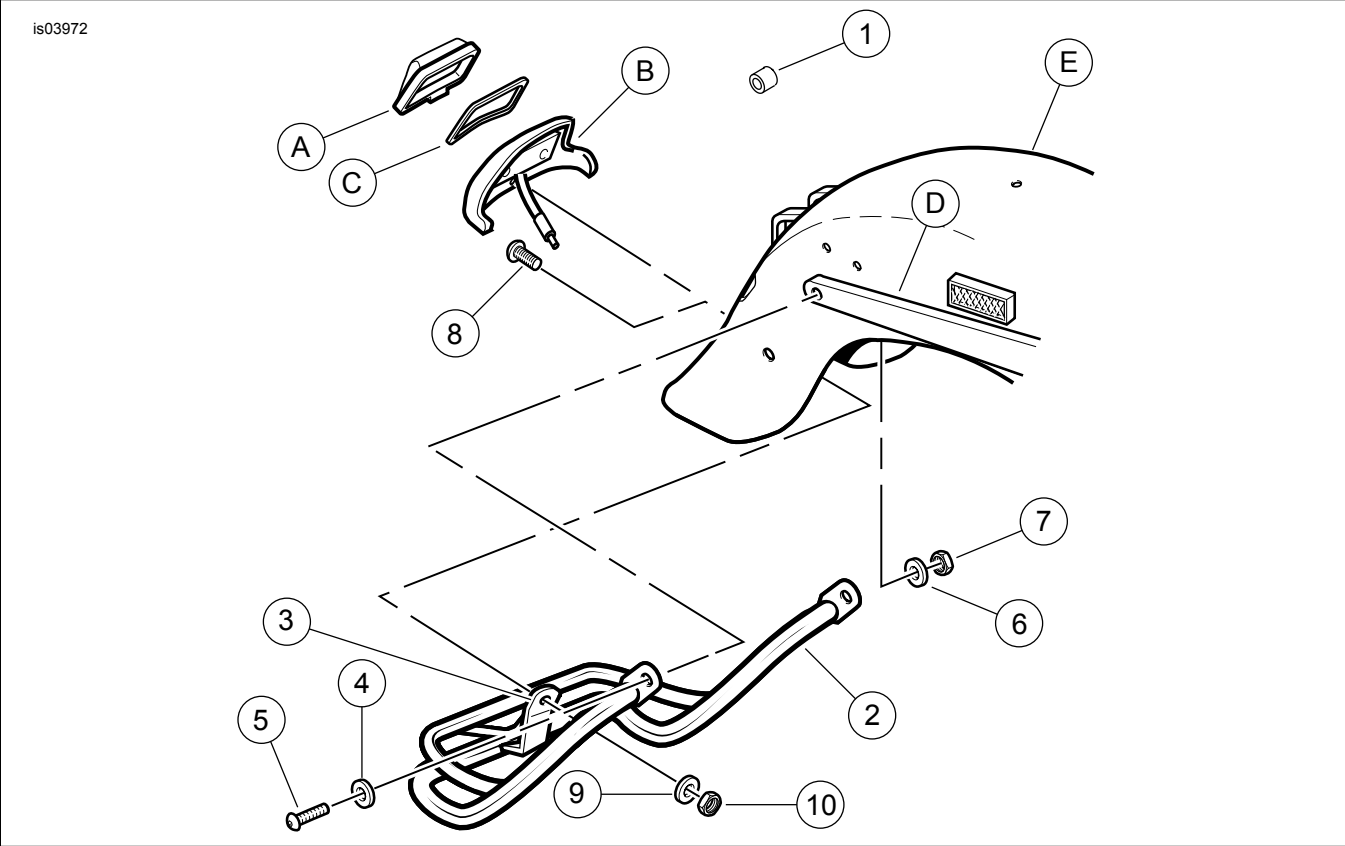

Figure 1. Service Parts: Heritage Rear Fender Rail
See Figure 1 and Table 1.
See Figure 1. Saddlebags must be removed to insert spacer (1).
1. Using a small flat head screw driver, remove rear fender tip light lens cover (A) by gently prying cover away from assembly. (There is a notch at top of cover to ease removal.) Remove and retain cover (A) and gasket (C).
2. Remove fender tip light assembly (B) by removing two screws, four star washers, and two nuts (not shown) using a #2 Phillips screw driver and a 3/8 inch wrench. Retain all hardware for reassembly.